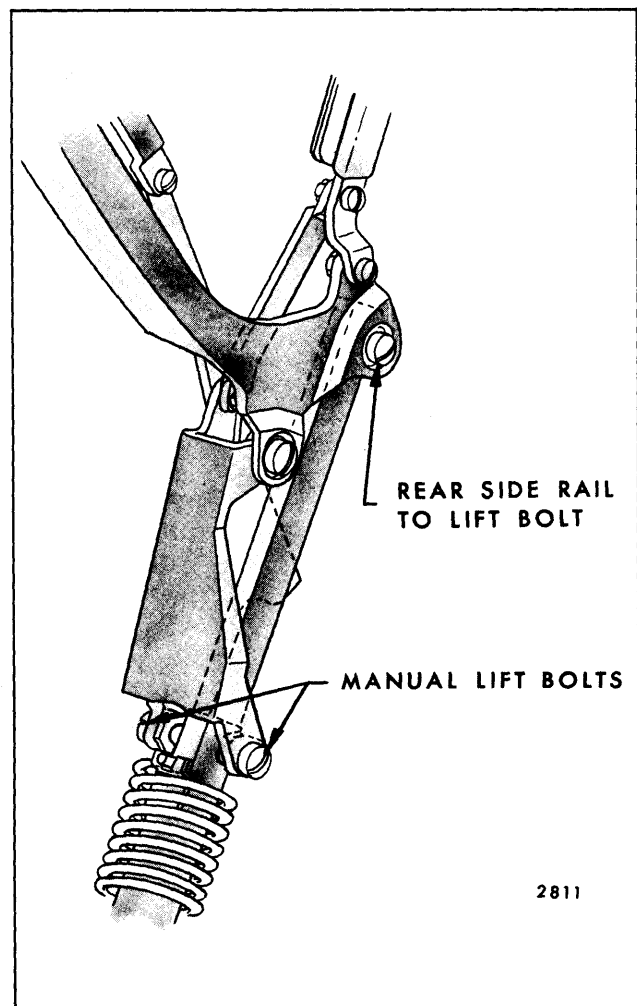
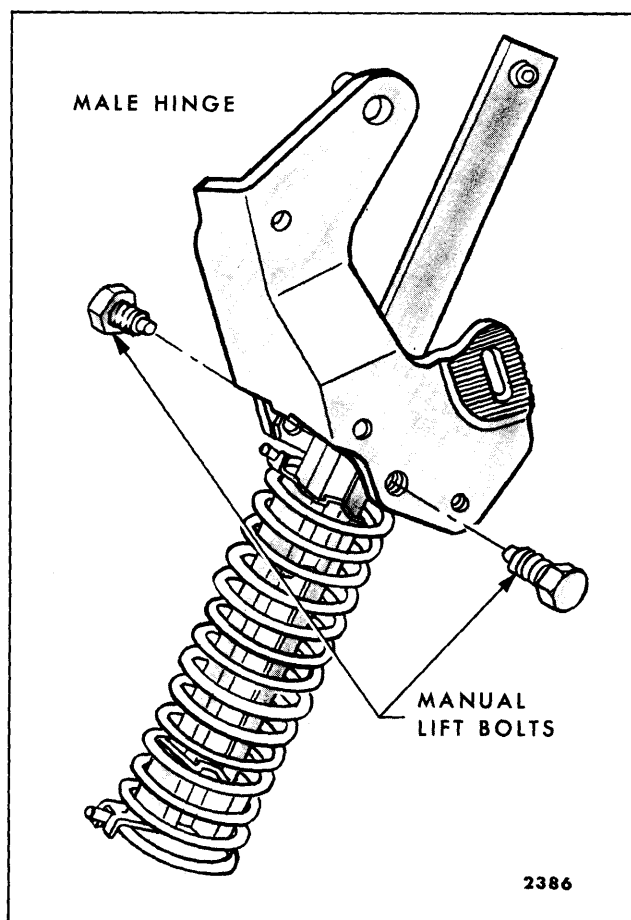
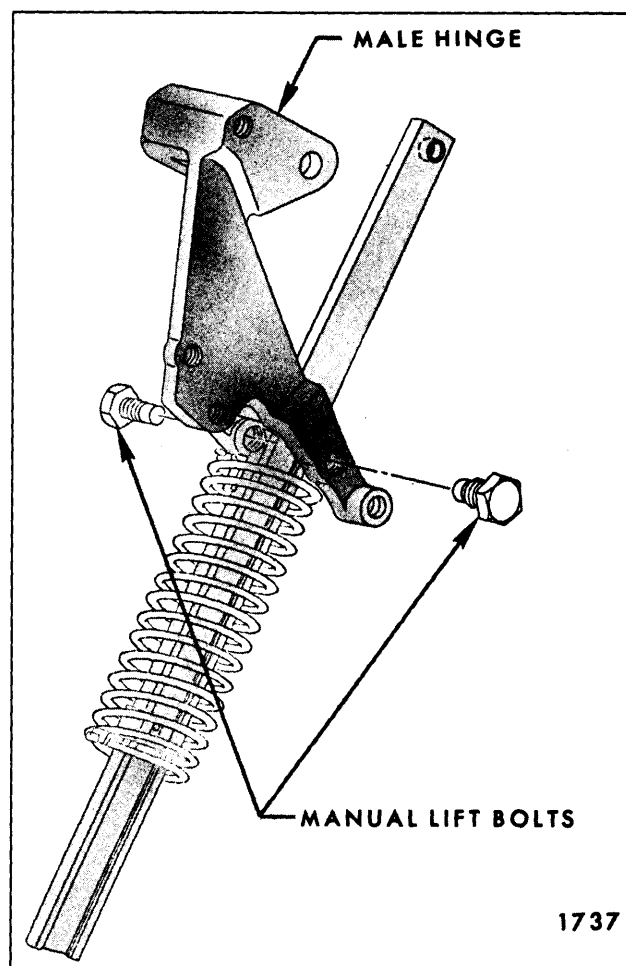

Fig. 13-76—Folding Top Manual Lift Attachment - "A" Styles
Fig. 13-77—Folding Top Manual
Fig. 13-78—Folding Top Manual
4. On "F & Z" bodies, remove inner and outer bolt securing lift assembly to male hinge; then remove assembly from body. On "A" bodies, remove inner bolt and slightly move lift assembly inboard and remove. (Fig. 13-76 for "A" body, Fig. 13-77 for "F" body, and Fig. 13-78 for "Z" body.)